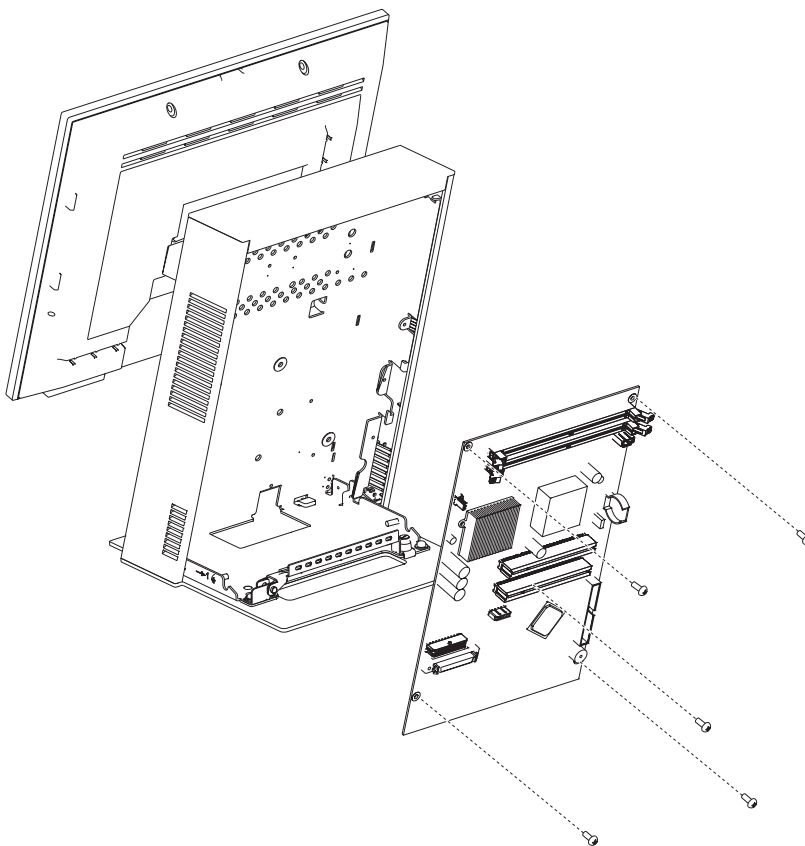

Figure 51. Removing the system board
7. Remove the five screws, as shown in Figure 51 on page 66.